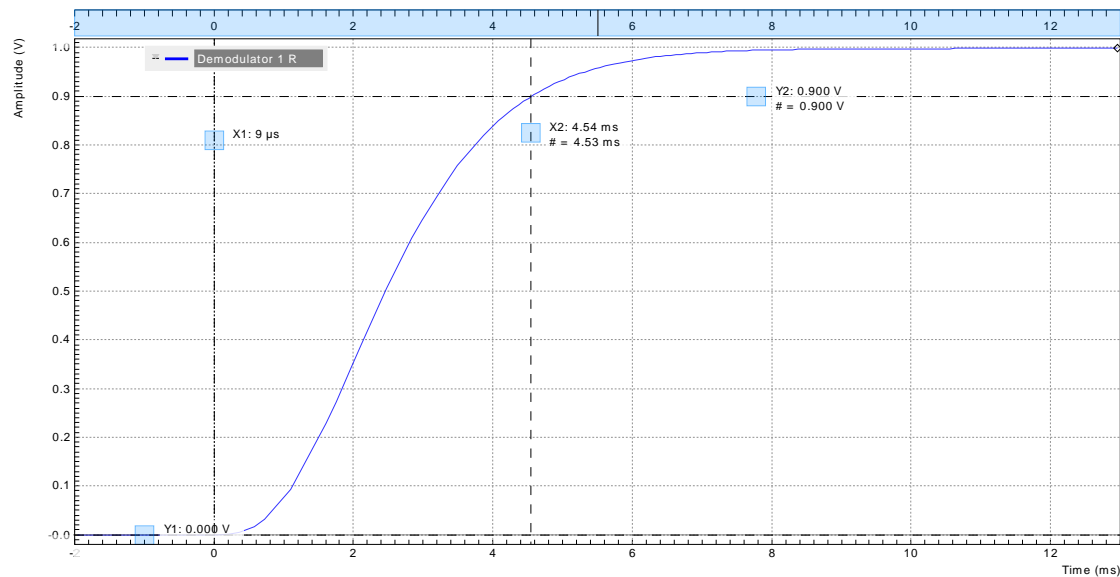

Figure 4.17. Demodulator settling time and inaccuracy
Regarding the details of signal acquisition and interpretation the sweeper offers generally two modes of operation: the Application Mode and the Advanced Mode. The Application Mode provides the choice between six measurement approaches that should help to obtain correct measurement results for certain applications quickly. Users who like to be in full control of all the settings can access them by switching to the Advanced Mode. That allows for instance to define the number of sample points taken for each sweep step as the maximum of the values number of samples (Counts) and time constants (TC). Also the filter settling time of each sweep point can be defined as the maximum of the values set in units of absolute time and a time derived from the targeted demodulator filter settling inaccuracy (e.g. 1 m for 0.1%). Let's consider an example. For a 4th order filter and a 3 dB bandwidth set to 100 Hz we obtain a step response that arrives at 90 percent after about 4.5 ms. This can be easily measured by using the SW Trigger as indicated in Figure 4.17. In case the full range is set to 1 V this means a measurement has a maximum error caused by imperfect settling of about 0.1 V. However, for most measurements the neighboring values are close compared to the full range and hence the real error caused is usually much smaller. It is also important to understand that the filter time constant (respectively the